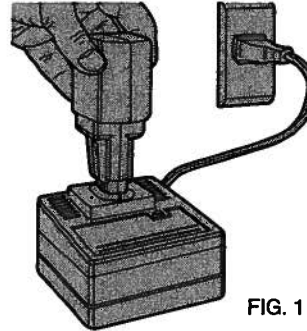

FIG. 1
The DW9104/DW9106 chargers are designed to charge DeWALT battery packs in about 1 hour. These chargers require no adjustment and are designed to be as easy as possible to operate. Simply place your battery pack into the receptacle of a plugged in charger (Figures 1 and 2) and it will automatically charge the pack.
2. Insert the battery pack into the charger, as shown in Figures 1 or 2, making sure the pack is fully seated in the charger. The red (charging) light will blink continuously indicating that the charging process has started.